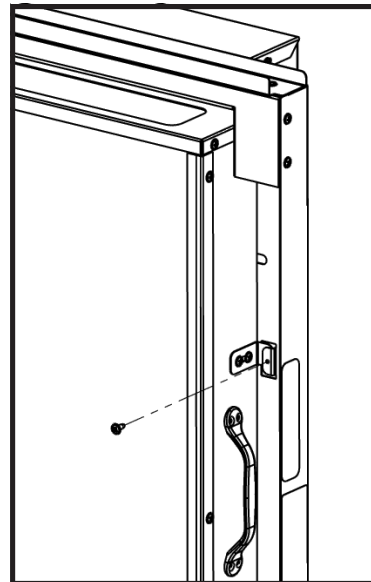

FIGURE 1
- 1. Remove screws securing glass assembly on the mounting tabs. (Figure 1)**